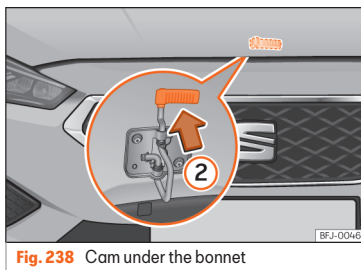

Fig. 238 Cam under the bonnet
- To lift the bonnet, press the release catch under the bonnet upwards »» Fig. 238 ②. The arrester hook under the bonnet is released.